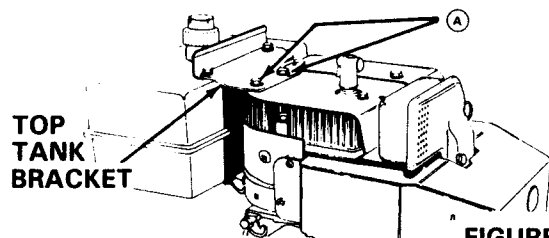

FIGURE 52
Refer to Figures 52 and 53 and determine the type of "fuel tank bracket" with which your engine is equipped.
- B. FOR "FUEL TANK BRACKET" AS IN FIGURE 52, PROCEED AS FOLLOWS:
2. Remove two (2) screws marked (A) in Figure 52.
For "Fuel Tank Bracket" as shown in Figure 52, proceed as follows:
2. Remove the two (2) screws marked (A) in Figure 52.